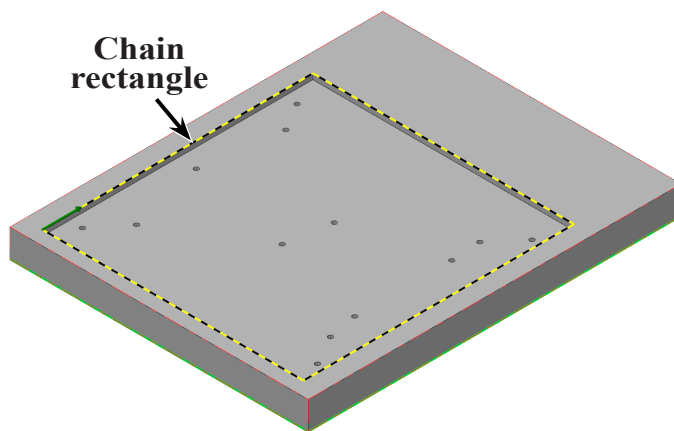

Fig. 44
Step 5. Click a **line of rectangle** to Chain the rectangle and click OK  in Chain dialog box, **Fig. 44**.